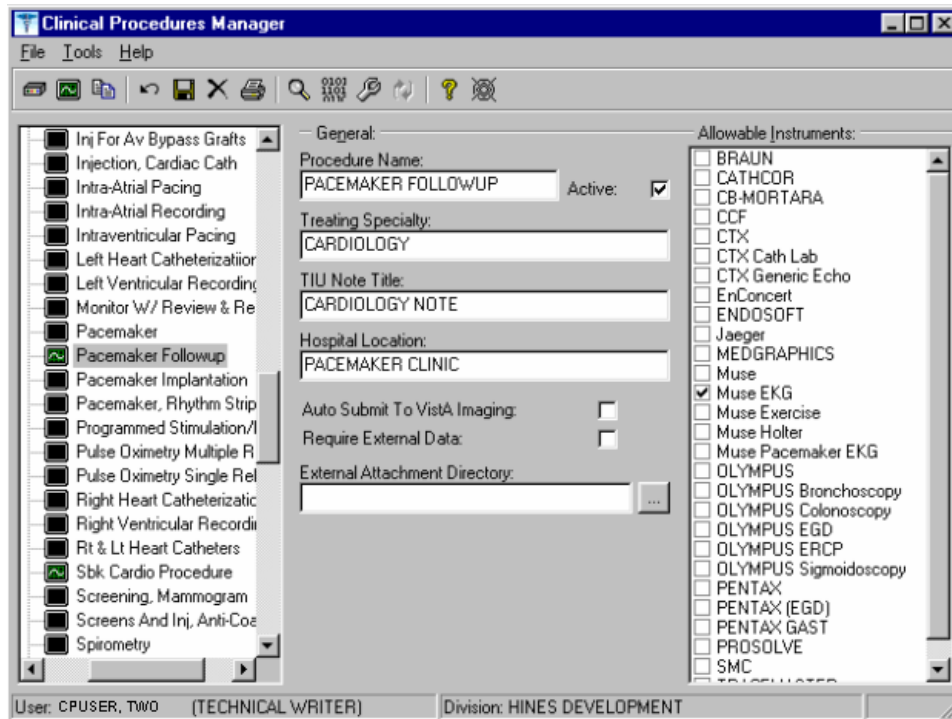

Figure 6-7
1. View the list of procedures. See Fig. 6-7.